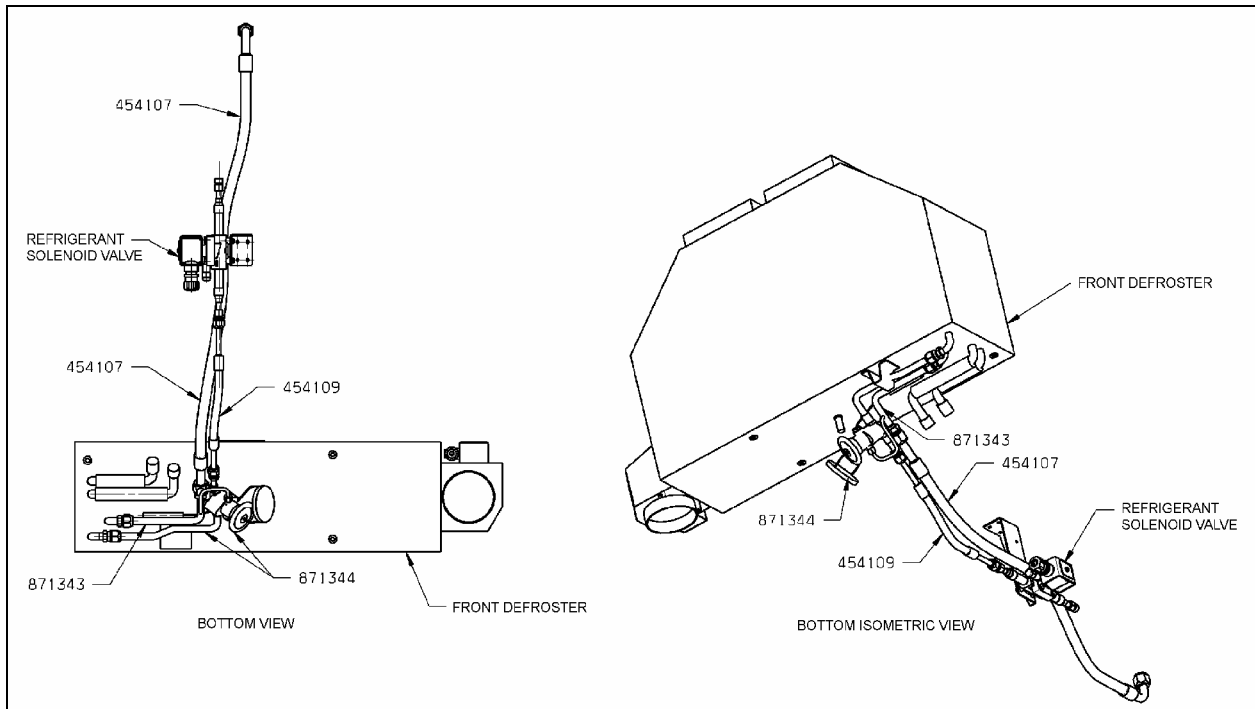

FIGURE 3: VIEW OF INSTALLATION – FRONT SECTION
2. Install and connect hoses 454107 and 454109 as per figure 3.